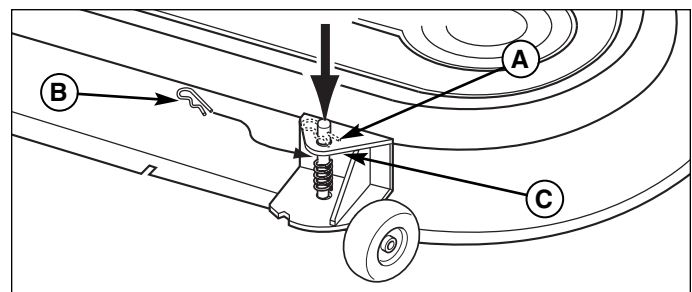

Figure 46. Pivoting Gauge Wheel Adjustment
1. Remove the hair pin clip (A, B, Figure 46).
2. For upper position, install the pin (A) through the spindle above the bracket (C). For the lower position, push down on the top of the spindle, and install the hair pin clip (B) below the top of the bracket (C).